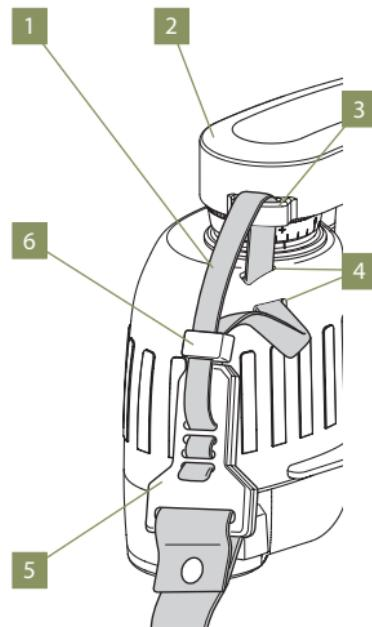

Fig. 8
5. Pull the carrying strap **1** out of the opening **4** on the under-side of the binoculars (see Fig. 8).